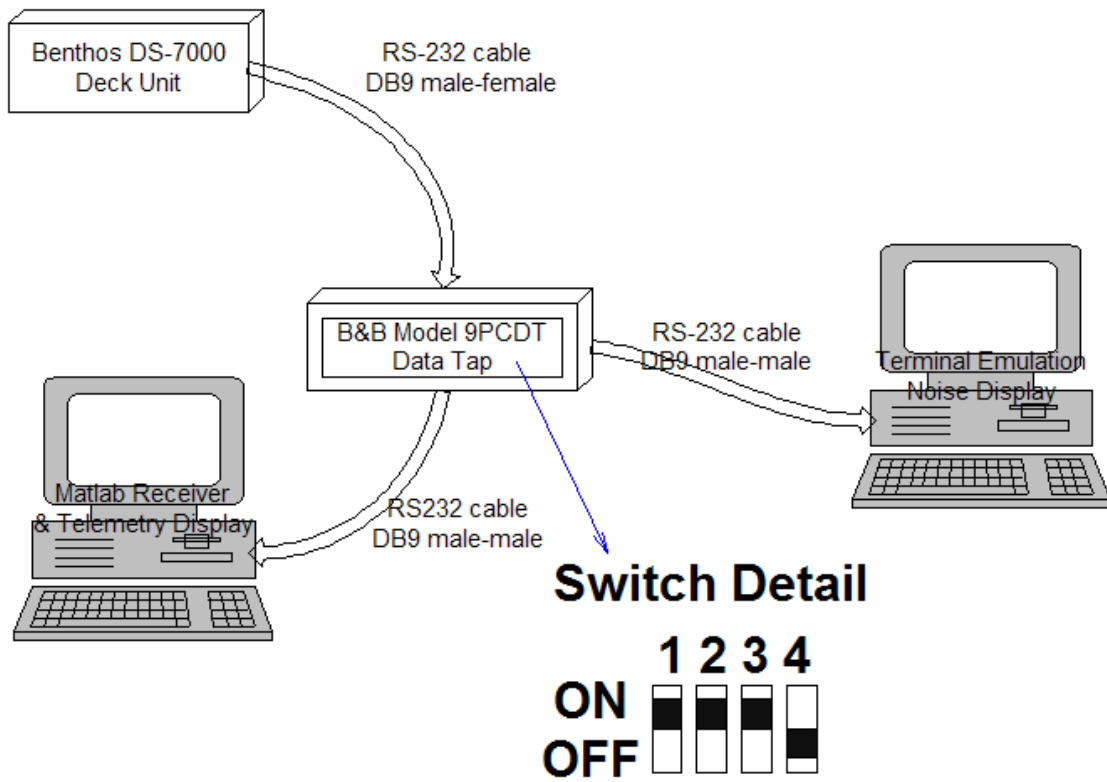

Figure 11-1 IES Acoustic Tracking & Telemetry Hardware Setup
- Data Tap Module (B&B Electronics Model No. 9PCDT) with appropriate RS232 cables as shown in Figure 11-1.
8. Set up your hardware as shown in Figure 11-1.